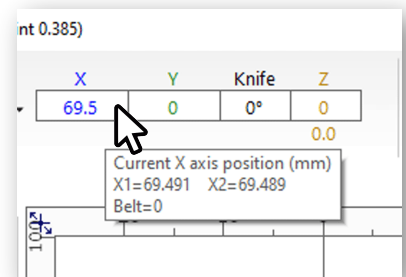

Figure 3
- 4) Hover the mouse cursor over the blue X encoder value in the upper left of TigerVision to display the X1 and X2 values. (Figure 3) These values are displayed in millimeters and should be equal, prior to the tenth (1/10th) millimeter.
- 6) Re-check the X1 and X2 values. (Figure 3) If the values have a difference greater than 2mm*, re-square the beam following the instructions on Page 2.
- 4)** Return to TigerVision and complete steps 1-5 from Page 1, making sure that the X values are now equal prior to the tenth (1/10th) of a millimeter. (Figure 3)
- 6)** With the machine in a "Ready" state, tighten all eight (8) bolts on each side of the beam, re-install the bump guard covers, and resume production.